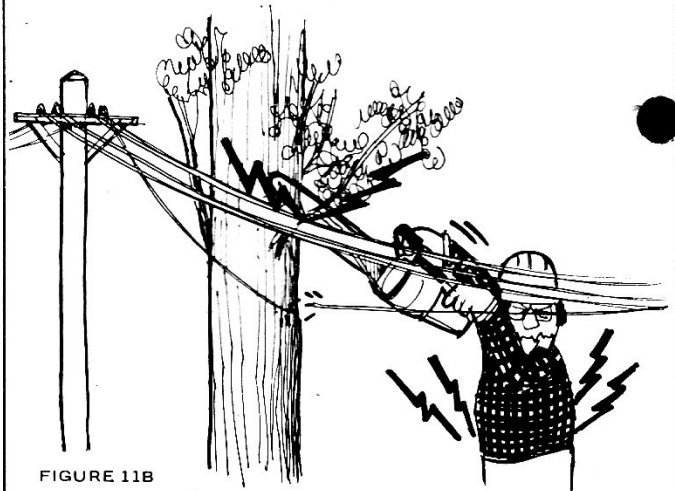

FIGURE 11B
29. Never cut through live electrical conductors - death or serious injury can result from electrical shock. See Figure 11B.